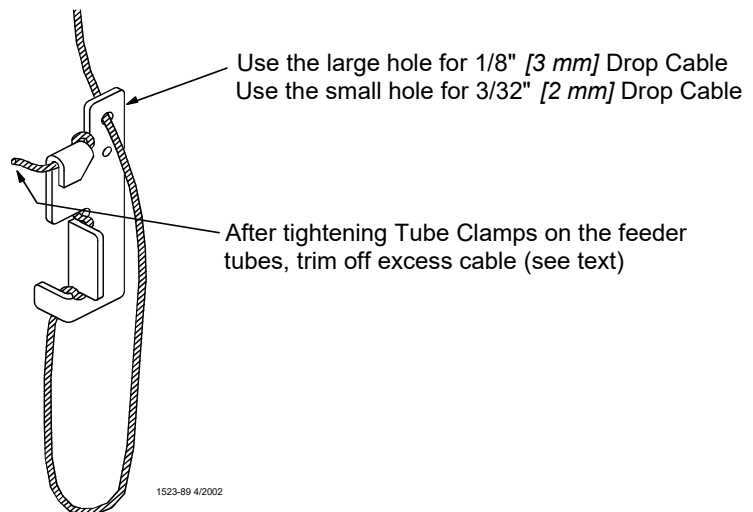

Figure 31. Assembling Feeders on the Tubes
6. Install Adjustment Leveler within 6" [152 mm] of feeder line. **Figure 31** shows the proper cable routing around the Adjustment Leveler.
Finally, tighten the Tube Clamps on the feeder tubes. Clamp the joints securely, but do not crush the tubes. Re-adjust all Adjustment Levelers as needed and trim off excess cable as shown in **Figure 31**.